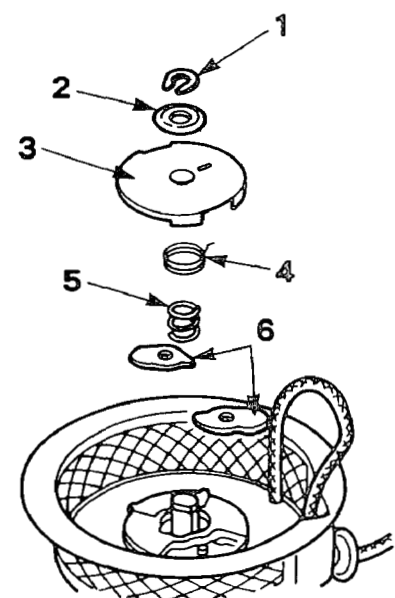
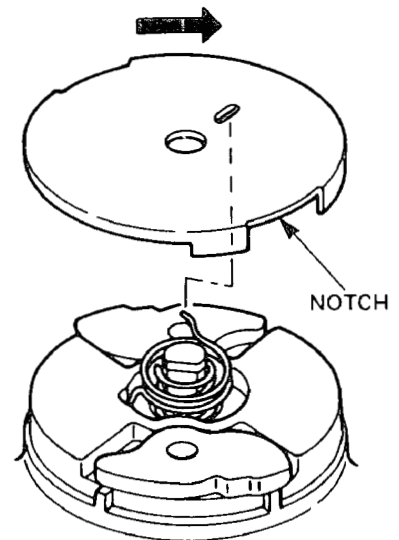

FIG. 80
FIG. 85
- (3) When removing, take out the parts in the order of the numbering in Fig. 80.
- (4) When reassembling the parts, follow up in the reverse order to Fig.80. When putting the friction plate in the hole for it, set the return spring a little upward as shown in Fig.85 so that the friction plate can easily be put in the hole for it.